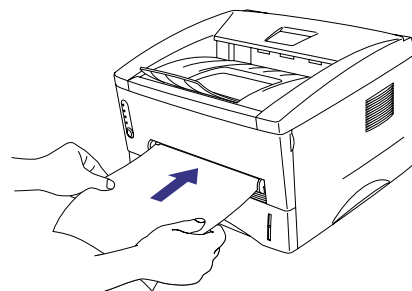

Fig. 2-24
- (3) Insert the paper into the manual feed slot with both hands until the front edge of the paper touches the paper feed roller.
- (4) Hold the paper in this position until the printer feeds the paper a short distance, then let go of the paper. (Fig. 2-24)